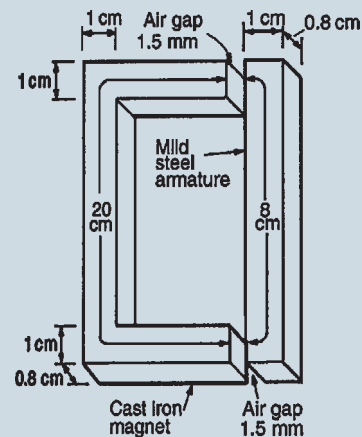

Figure 9.8
6. Fig. 9.8 shows the magnetic circuit of a relay. When each of the air gaps are 1.5mm wide find the m.m.f. required to produce a flux density of 0.75T in the air gaps. Use the B–H curves shown on page 160.